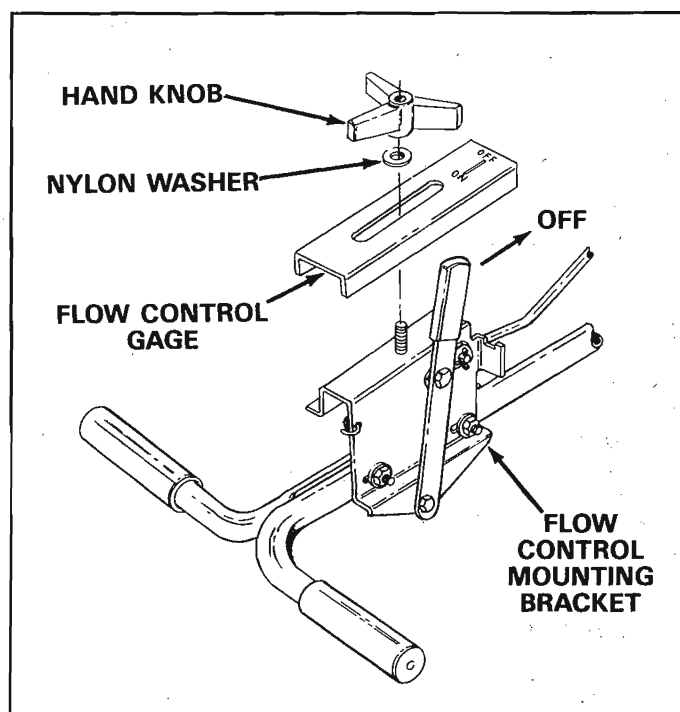

FIGURE 15
24. Assemble the flow control gage onto the flow control mounting bracket as shown in figure 15. Secure with nylon washer and hand knob.
25. Move flow control arm to off position and push flow control mounting bracket toward hopper until closure plate (located in bottom of hopper) is completely closed. Tighten 1/4" hex lock nuts assembled in step 22. See figure 15.